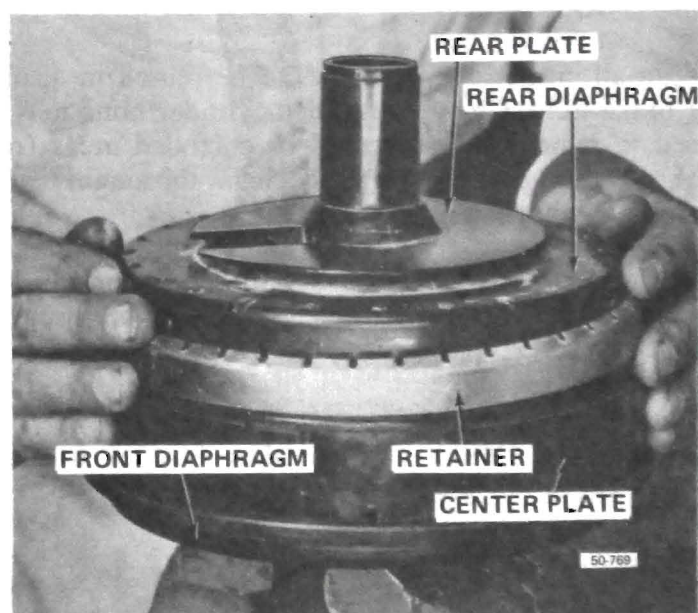

Figure 50-141 Installing Rear Diaphragm Retainer
10. Assemble rear diaphragm to rear plate and place lip of diaphragm in groove in rear plate. Install diaphragm retainer over rear diaphragm and lip of center plate. Using fingers, press retainer until it seats on shoulder of center plate. See Figure 50-141.